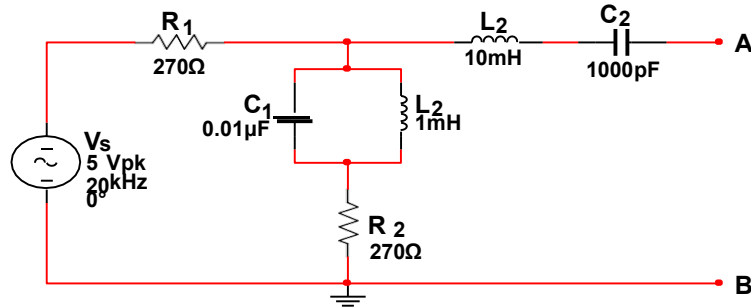

Figure 2.1 – AC Thévenin Analysis Circuit
5. **Build** the circuit in **Figure 2.1** on a breadboard.